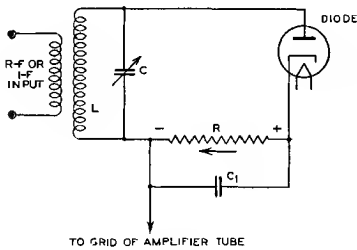

Fig. 21
The **diode method** makes use of the rectifying action of the diode. Although the diode does not amplify, its operating characteristics make it particularly suitable as a detector when freedom from distortion is desired. This suitability is due to the relatively low resistance of the diode in the direction of current flow and the consequent convenient size of the load resistance necessary to give the approximate linearity of the dynamic characteristic required for low-distortion detecting action. Fig. 21 shows a half-wave diode detector circuit. The audio signal voltage is developed across the load resistance (R).
Automatic control of receiver volume generally utilizes a rectified voltage which is dependent on a radio-frequency or intermediate-frequency carrier signal. This voltage may be utilized to regulate the gain of the r-f and/or i-f amplifier stages so as to maintain essentially constant-carrier input to the audio detector. The regulation of amplifier gain by means of the rectified voltage may be accomplished by a number of methods, differing chiefly in the means of applying the voltage to the various electrodes of the amplifier tubes. For example, the control voltage might be applied to the suppressor, plate and/or screen of an r-f pentode. A more familiar method is that in which the control voltage is applied to the grid of the r-f amplifier. In Fig. 21, current flows from plate to cathode, through R back to LC. This places the cathode end of load resistor (R) at positive potential and the opposite end at negative potential. Negative voltage for biasing the grids of the r-f amplifiers may be obtained from the negative end of this resistor.